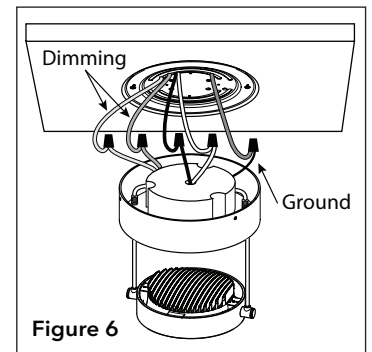

Figure 6
Step 6. Connect line and neutral wires from ceiling to brown and blue wires from driver. Connect ground (green/yellow) from driver to ground wire from ceiling. (Fig. 6). Driver accepts 220-240VAC input.